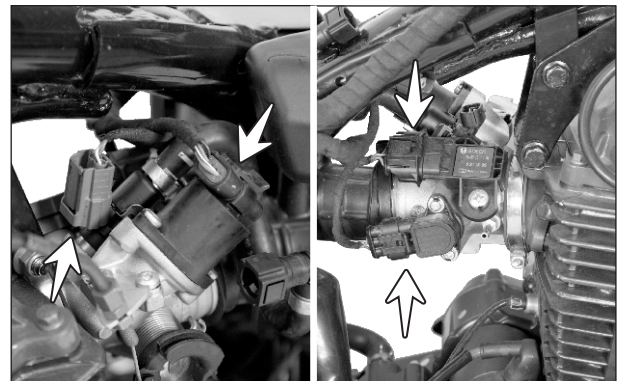

Fig. 3.24
- Disconnect the all sensors (4 nos.) from throttle body assembly. (Fig. 3.24)